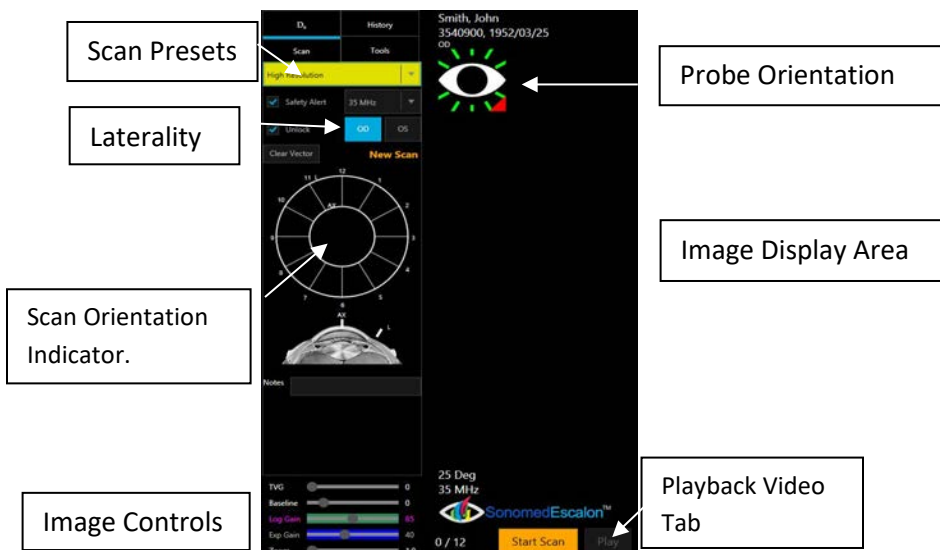

Figure7:Presets/Controls
- ① **SELECT THE PROBE FREQUENCY** to be used from the drop-down menu on the left of the display. UBM Mode: 35 MHz or 50 MHz transducer may be used in conjunction with a water path probe.
- ② **SELECT APPROPRIATE PRESET SCAN MODE** and/or adjust image controls for optimizing image quality for the desired area of interest (ex. Anterior, Orbit, Angle, etc.). Available image controls and preset scan modes are shown in Figure 7.